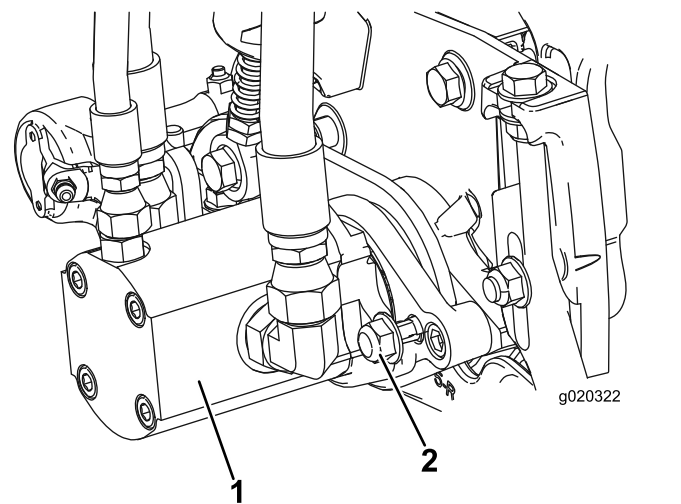

Figure 13
17. Install the motor by rotating it clockwise so that the motor flanges clear the locknuts (Figure 13). Rotate the motor counterclockwise until the flanges encircle the nuts, then tighten the nuts.